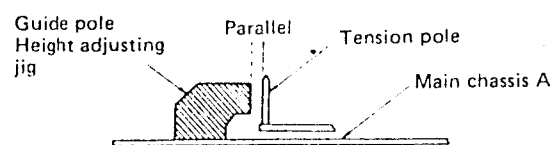

Figure 14.
- 2) Set the stationary guide pole height adjustment jig as shown in figure 14.